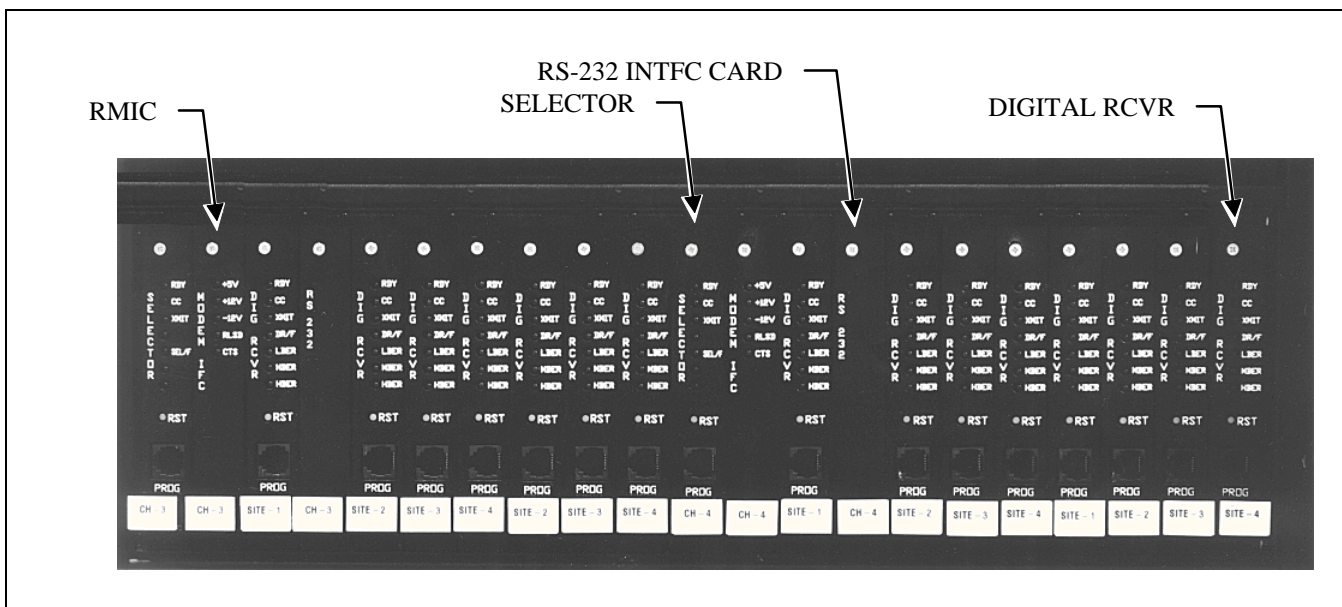

Figure 7 - Digital Voter Shelf
The Digital Voter Shelf, shown in Figure 7, furnishes housing and electrical connections for the modules installed in the shelf. The type and number of modules installed in a Digital Voter Shelf depends on the type of system, number of sites and channel configuration. For example, in a Simulcast system the shelf may be configured for one channel per shelf and support up to 17 sites or two channels per shelf supporting a maximum of six (6) sites. Refer to LBI-39153 for a listing of the various configurations.